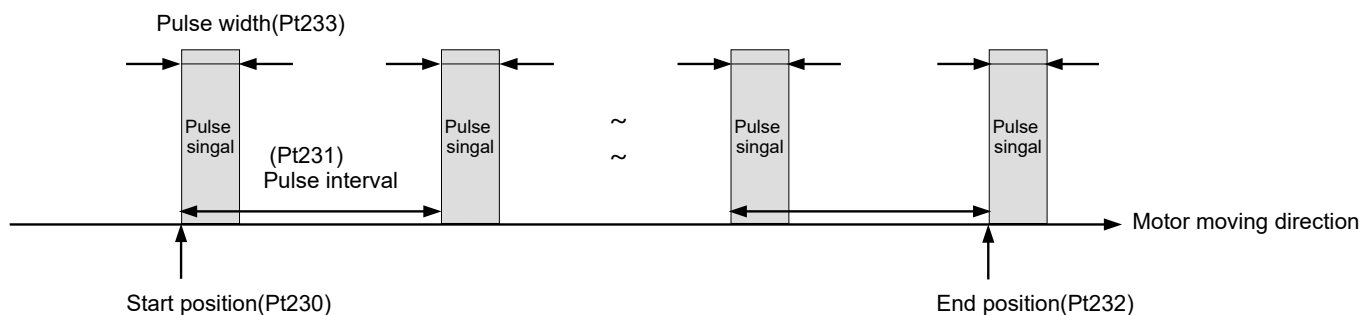

Figure 8.13.1
E2 series servo drive provides position trigger (PT) function. This function supports fixed interval pulse trigger, random interval pulse trigger and random interval trigger status mode. Take pulse trigger output for example, when motor moves to the set position, the servo drive simultaneously outputs a pulse signal. The width and polarity of the pulse signal can be user-defined, as shown in figure 8.13.1. A user can refer to table 8.13.1 for detailed specification and function descriptions. Position trigger function has no human machine interface, so its related parameters must be set via PDL or MPI. The hardware pins for position trigger digital output (PT) signal are CN6 46 and 47 (3.3 V/50 mA). The signal can be allocated to digital outputs O1~O5 (24 V) if users cannot support such voltage level. Position trigger (PT) function is mainly used in application which requires simultaneous in-position signal for high-speed and high-precision processing, such as laser equipment, line scan camera and lithography equipment.
When the motor moves to the set start position (Pt230), the drive will output the first pulse signal synchronously. When the motor moves to the position of next pulse interval (Pt231), the drive will output next pulse signal. The drive will synchronously output pulse signals in sequence until the motor moves beyond the end position (Pt232), as shown in Figure 8.13.1.